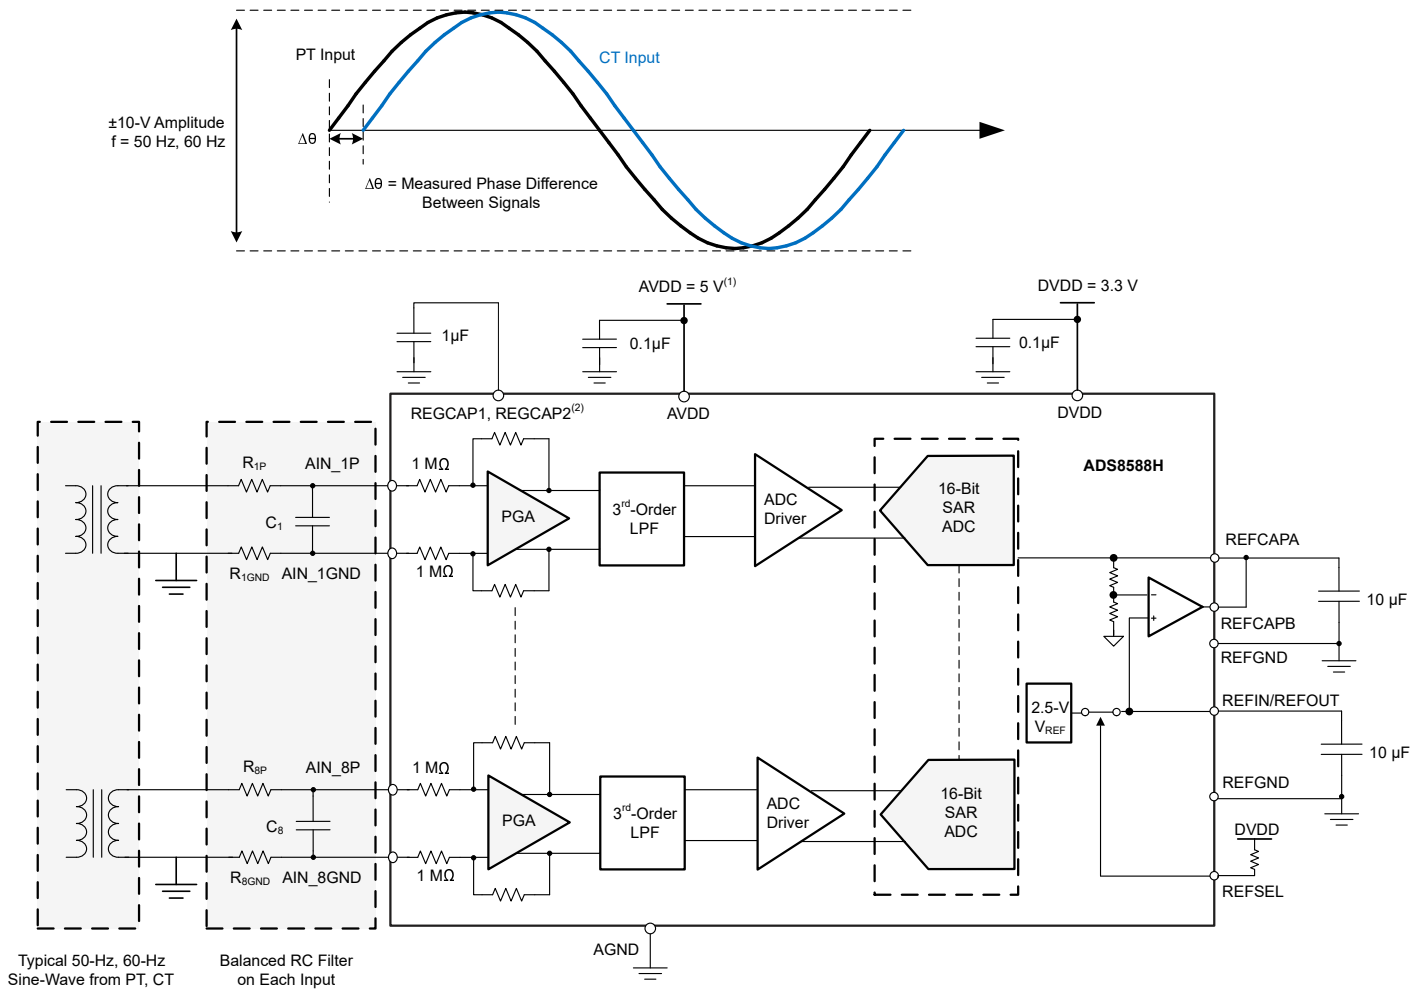

图 8-1. 8-Channel DAQ for Power Automation Using the ADS8588H
This application example involves the measurement of electrical variables in a power system. The accurate measurement of electrical variables in a power grid is extremely critical because this measurement helps determine the operating status and running quality of the grid. Such accurate measurements also help to diagnose potential problems with the power network so that these problems can be resolved quickly without having any significant service impact. The key electrical parameters include amplitude, frequency, and phase measurement of the voltage and current on the power lines. These parameters are important to enable metrology in the power automation system to perform harmonic analysis, power factor calculation, power quality assessment, and so forth. 图 8-1 illustrates a typical application circuit for an 8-channel DAQ application.
- Output range of the potential transformers (elements labeled PT in 图 8-1)
- Output range of the current transformers (elements labeled CT in 图 8-1)
The PT and CT used in the system (图 8-1) have a $\pm 10\text{-V}$ output range. Although the PT and CT provide isolation from the power system, a series resistor must be placed on the analog input channels. The series resistor helps limit the input current to $\pm 10\text{ mA}$ if the input voltages exceed $\pm 15\text{ V}$. For applications that require protection against overvoltage or fast transient events beyond the specified absolute maximum ratings of the device, an external protection clamp circuit using transient voltage suppressors (TVS) and ESD diodes is recommended.
The primary goal of the data acquisition system illustrated in 图 8-1 is to measure up to 20 harmonics in a 60-Hz power network. Thus, the analog front-end must have sufficient bandwidth to detect signals up to 1260 Hz, as shown in 方程式 1.